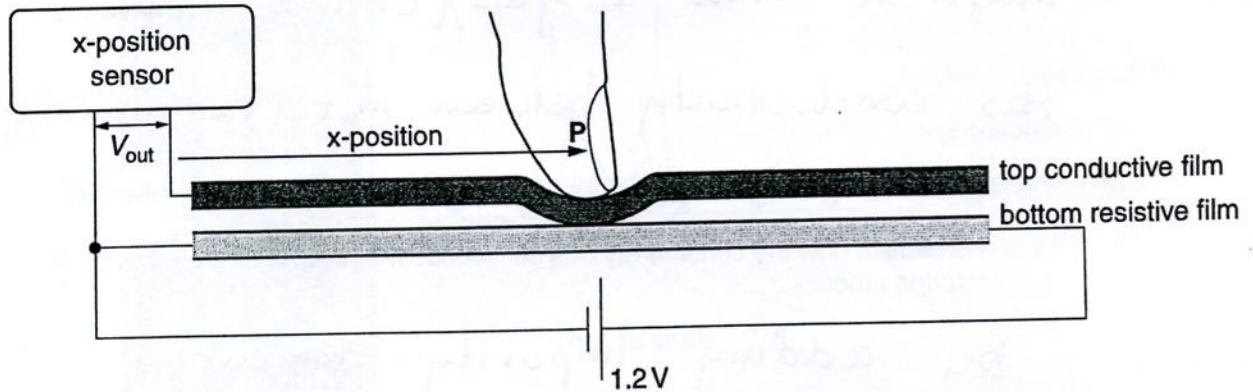
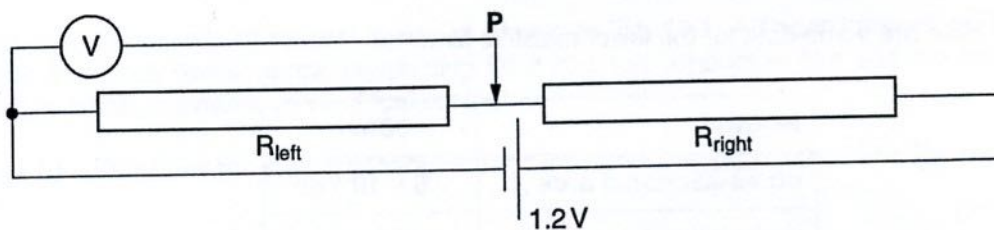

Fig. 10.2a
Fig. 10.2b
- (c) Fig. 10.2a shows the circuit connections to measure the x-position on the touch-sensitive screen. Fig. 10.2b shows the equivalent potential divider circuit using conventional circuit symbols. Point P represents the point of contact between the films.